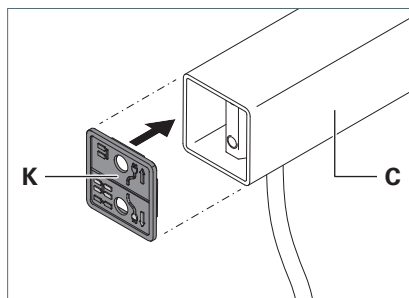

Fig. 3: Inserting the liner plate.
2. Turn the liner plate **K** to the correct installation position and insert it onto the column **C**, see Fig. 3.